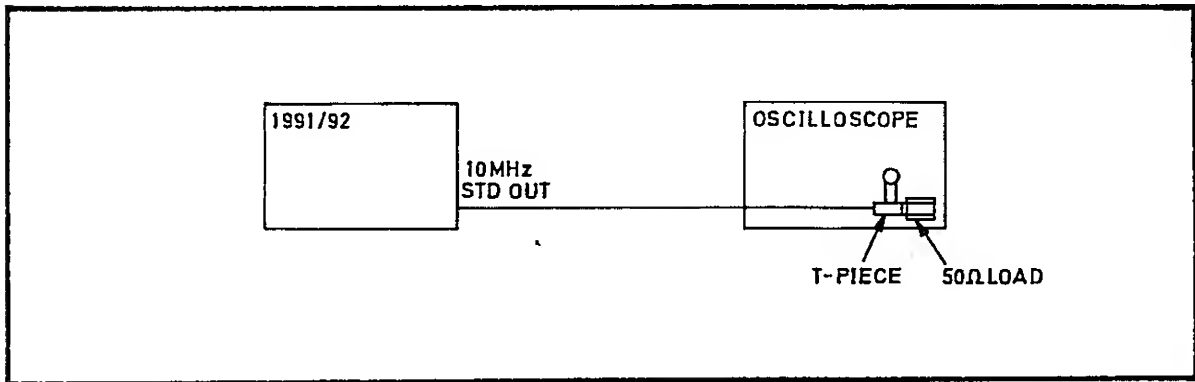

Fig 7.20 Connections for 10 MHz Standard Output Level PVP
- (1) Connect the test equipment as shown in Fig 7.20.
- (2) Verify that the peak-to-peak amplitude of the displayed waveform is 1.0 V \pm 0.4 V. Verify that the mark/space ratio is between 30:70 and 70:30.
- (3) Disconnect the test equipment.